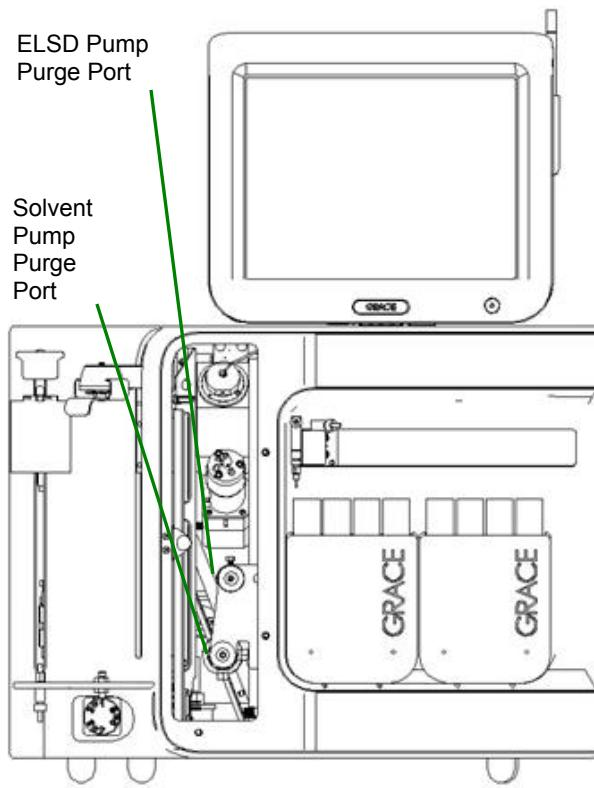

Figure 4-6: Front View of Reveleris™ Flash Chromatography System
6. Attach a syringe to the prime port (the bottom port) on the front panel of the detector behind the door (Figure 4-6).
The flash chromatography column to be used is placed in the column area (Figure 4-6). As you place the column into the instrument, ensure that it is positioned so that the RFID sensor detects the column size and the size is correctly indicated in the *Column* field of the *Setup* window. The arm on the top of the column is fitted by gravity and should be fit snugly on the column.
Liquid samples are introduced into the system via a syringe that is placed in the syringe arm (Figure 4-6). The arm will be moved to the top of the syringe when you start the separation (see Section 4.8). The arm contains a switch that detects if a solid sample or a liquid sample is to be separated.
Place the solid sample accessory in the sample area (Figure 4-6). The arm will be moved to the top of the solid sample assembly when you start the separation (see Section 4.8). The arm contains a switch that detects if a solid sample or a liquid sample is to be separated.